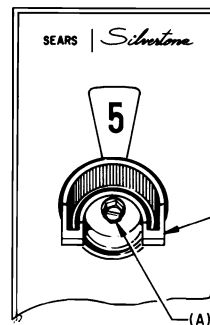

FIGURE 2
2. Loosen 1/4" hex head screw (A). (See Figure 2)
3. Center channel number within given area and tighten 1/4" hex head screw (A).